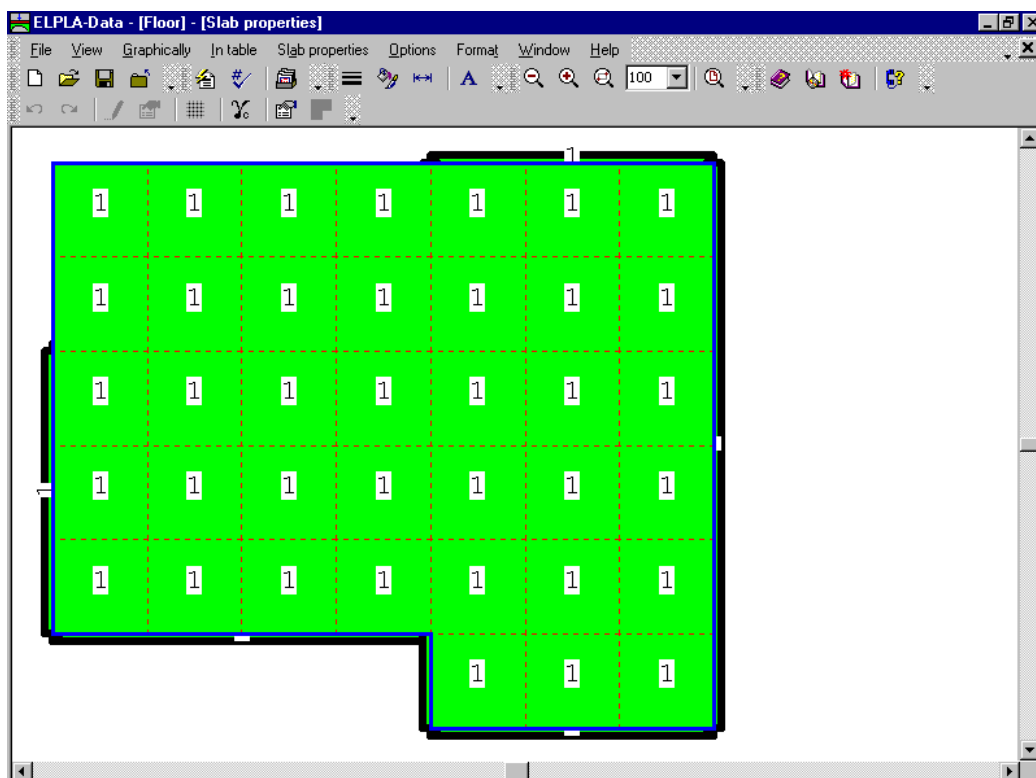
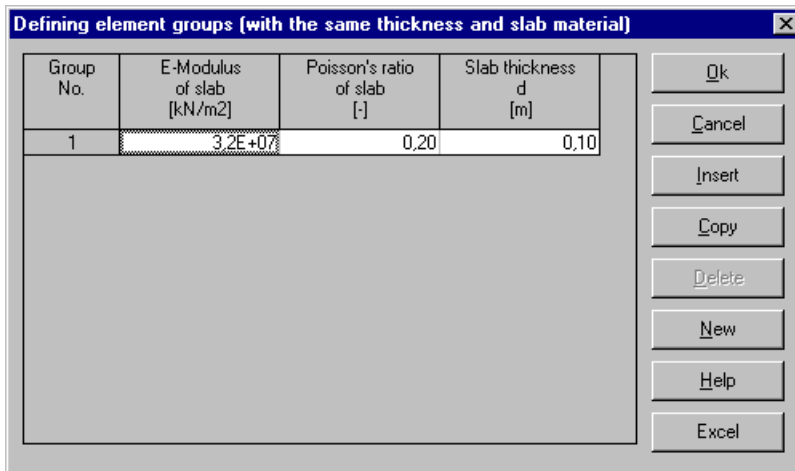
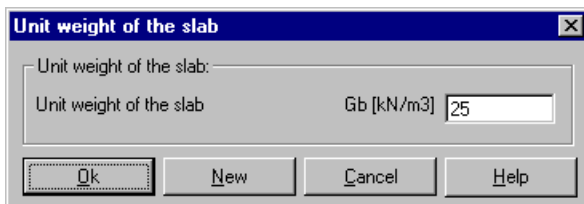

Figure 2-27 "Slab properties" embedded program
Figure 2-28 "Defining element groups" list box
Figure 2-29 "Unit weight of the slab" dialog box
To define the slab properties choose "Slab properties" command from "Data" menu of *ELPLA-Data*. The following embedded program in Figure 2-27 appears with default slab properties. The data of slab properties for the current example, which are required to define, are raft material and slab thickness.
- Choose "Element groups" command from "In Table" menu in the window of Figure 2-27. The following list box in Figure 2-28 with default data appears. To enter or modify a value in this list box, type that value in the corresponding cell and then press "Enter" key. In the list box of Figure 2-28, enter E-Modulus of the slab, *Poisson's* ratio of the slab and slab thickness
- Choose "Unit weight of the slab" command from "Slab properties" menu in the window of Figure 2-27. The following dialog box in Figure 2-29 with a default unit weight of 25 [kN/m³] appears
- Choose "Save slab properties" command from "File" menu in Figure 2-27 to save the slab properties
- Choose "Close slab properties" command from "File" menu in Figure 2-27 to close the "Slab properties" embedded program and to return to the main window of *ELPLA-Data*